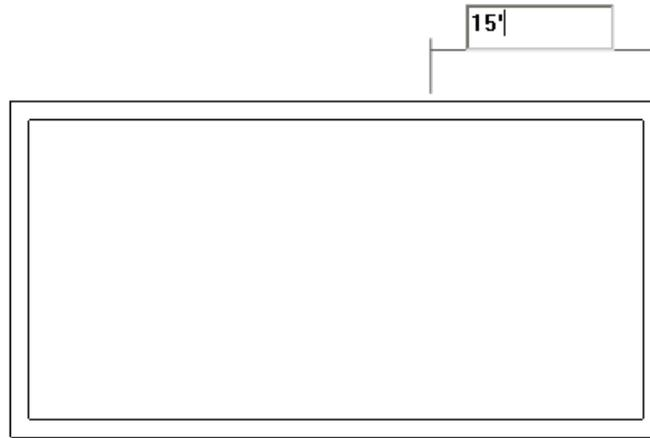
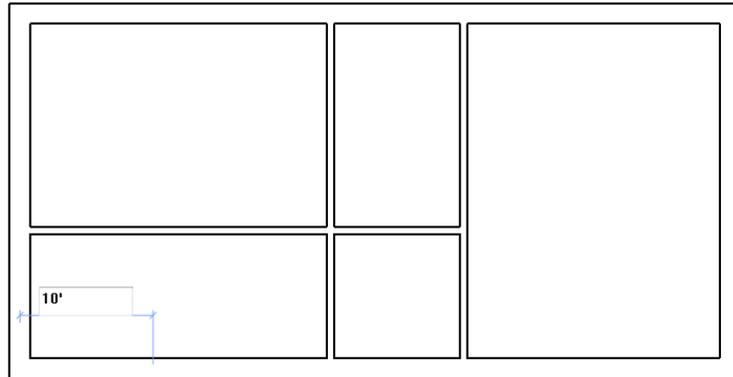

Figure 3-56 Specifying the distance for starting the first interior wall segment
Figure 3-62 Sketching the interior walls of the bath
- e. Sketch the interior walls based on the given parameters, refer to Figures 3-56 through Figure 3-62.
2. Type **15’(4572 mm)** from the keyboard, as shown in Figure 3-56. Now, press ENTER; the starting point of the first interior wall is specified.
5. Similarly, move the cursor near the lower left corner and then move it horizontally toward the right. When the temporary dimension and the intersection object snap appears, enter the value **10'0"**, as shown in Figure 3-62, and then press ENTER.